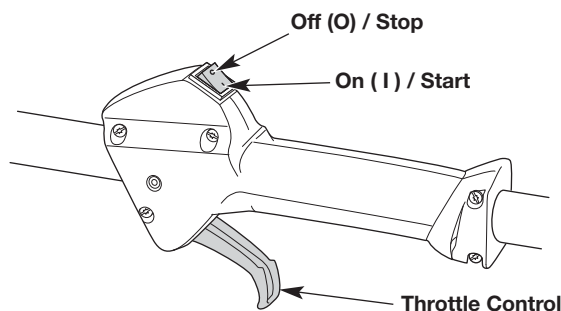
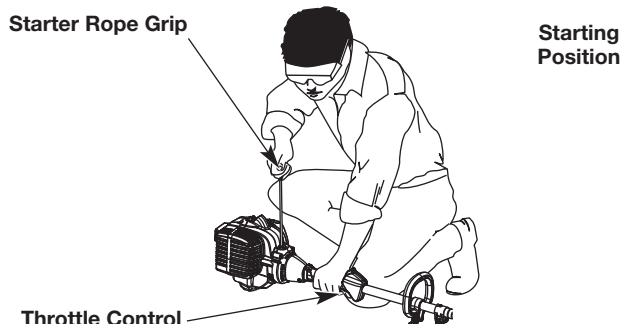

Fig. 5
Fig. 7
**WARNING:** Avoid accidentally starting the unit. To avoid serious injury, the operator and the unit must be in a stable position when pulling the starter rope (Fig. 7).
**NOTE:** There is no need to turn the unit on. The On/Off switch is in the ON (I) position at all times (Fig. 5).
5. Crouch in the starting position (Fig. 7).
6. Squeeze the throttle control (Fig. 5) and pull the starter rope with a controlled and steady motion **5 times** (Fig. 7).
2. Press and hold the On/Off switch in the OFF (O) position until the engine comes to a complete stop (Fig. 5).